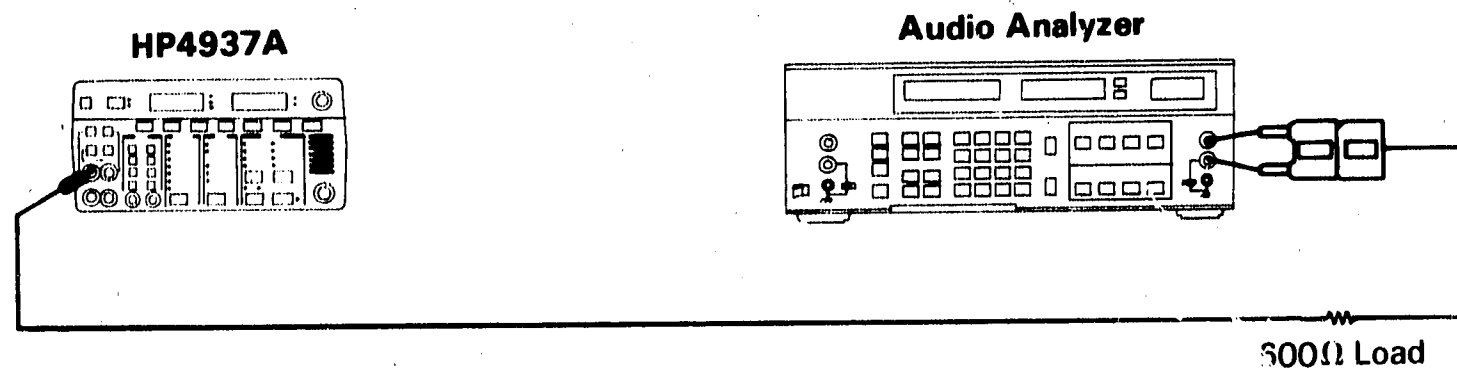

Figure 4-3. Distortion Test
1. Connect the equipment as shown in figure 4-3.